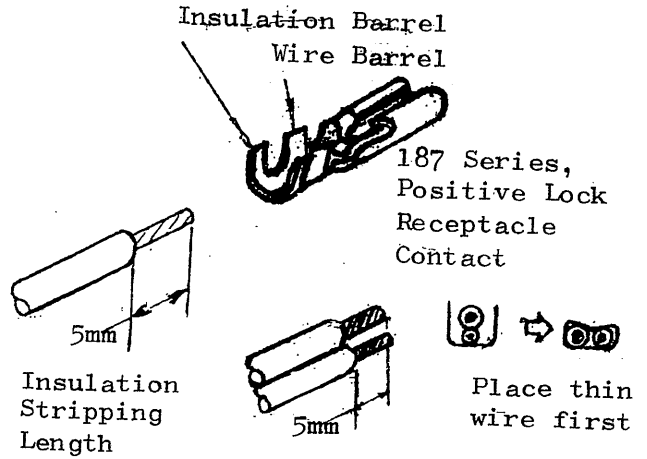

Fig. 2
- b) Strip the wire end to the length as shown in Fig. 2. Do not nick, cut or damage the wire conductors, when stripping.
During two-wire crimp operation, the wire having thin insulation may pass thru under the locator. For this, it is recommended that the thin wire be held underside together with another thick wire to be crimped together, for best suited positioning of the wires in the wire barrel. Then, as the crimp action is started with the handle closure, slide them to fit in parallel in the wire barrel. See a sketch in Fig. 2.